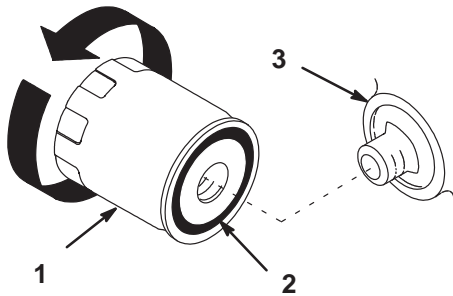

Figure 33
2. Remove the old filter and wipe the filter adapter (Fig. 33) gasket surface.
4. Apply a thin coat of new oil to the rubber gasket on the replacement filter (Fig. 33).
5. Install the replacement oil filter to the filter adapter. Turn the oil filter clockwise until the rubber gasket contacts the filter adapter; then tighten the filter an additional 1/2 turn (Fig. 33).